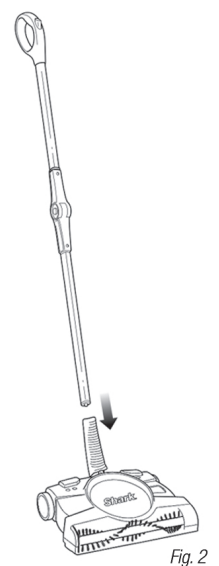

Fig. 2
- 2 Insert the Shark® Backsaver™ folding handle you just assembled into the top of the lower handle. You should hear the locking tab click into place (Fig. 2)